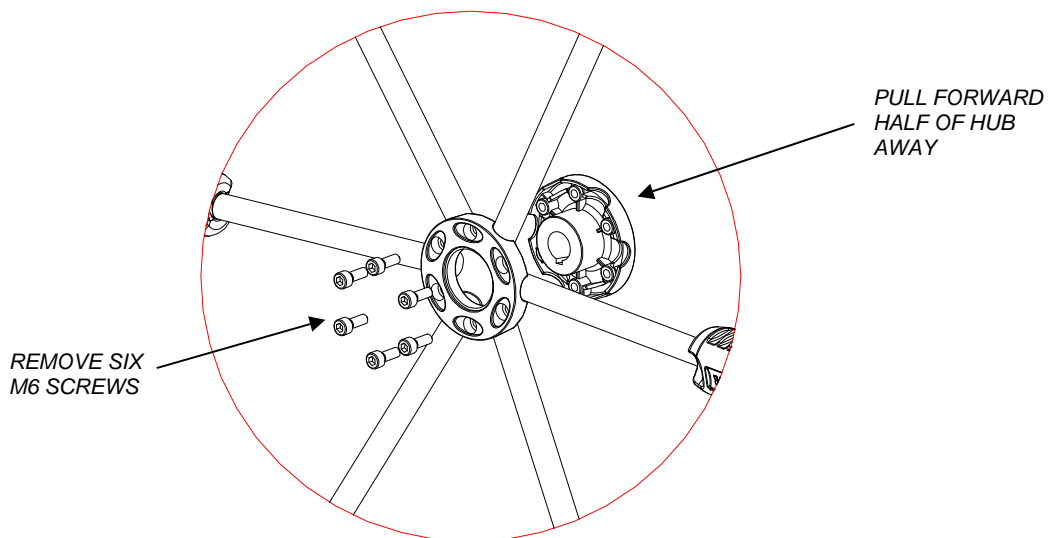

FIG 2: SHOWING SCREWS REMOVED AND FORWARD HALF OF HUB PULLED AWAY
1. Remove the six M6 socket headed cap screws from the wheel hub assembly. (fig 2)
2. With the screws removed, pull away the forward half of the wheel hub. (fig 2)